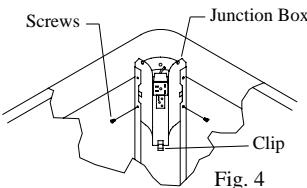

Fig. 4
- Remove junction box.** The electrical junction box is located in the upper inside corner of the cooler cabinet. Remove the two screws and remove the junction box (Fig. 4). Slide receptacles into slots in junction box.